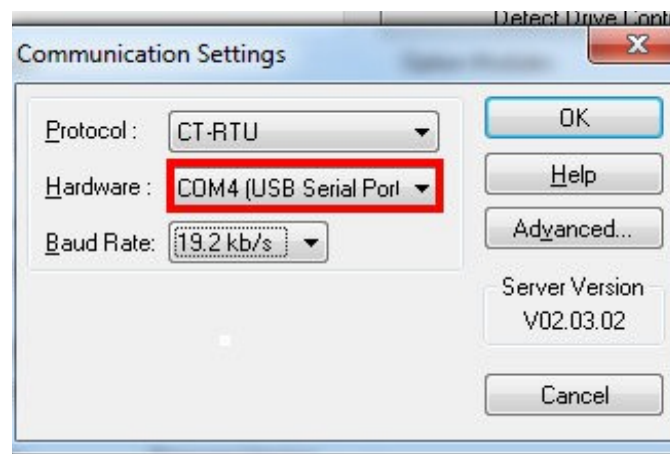

Figure 9
6. Verify that **Protocol** is set to **CT-RTU** and **Hardware** is set to COMx as defined in step 11 of **CTSoft Software Installation** as shown in Figure 9.